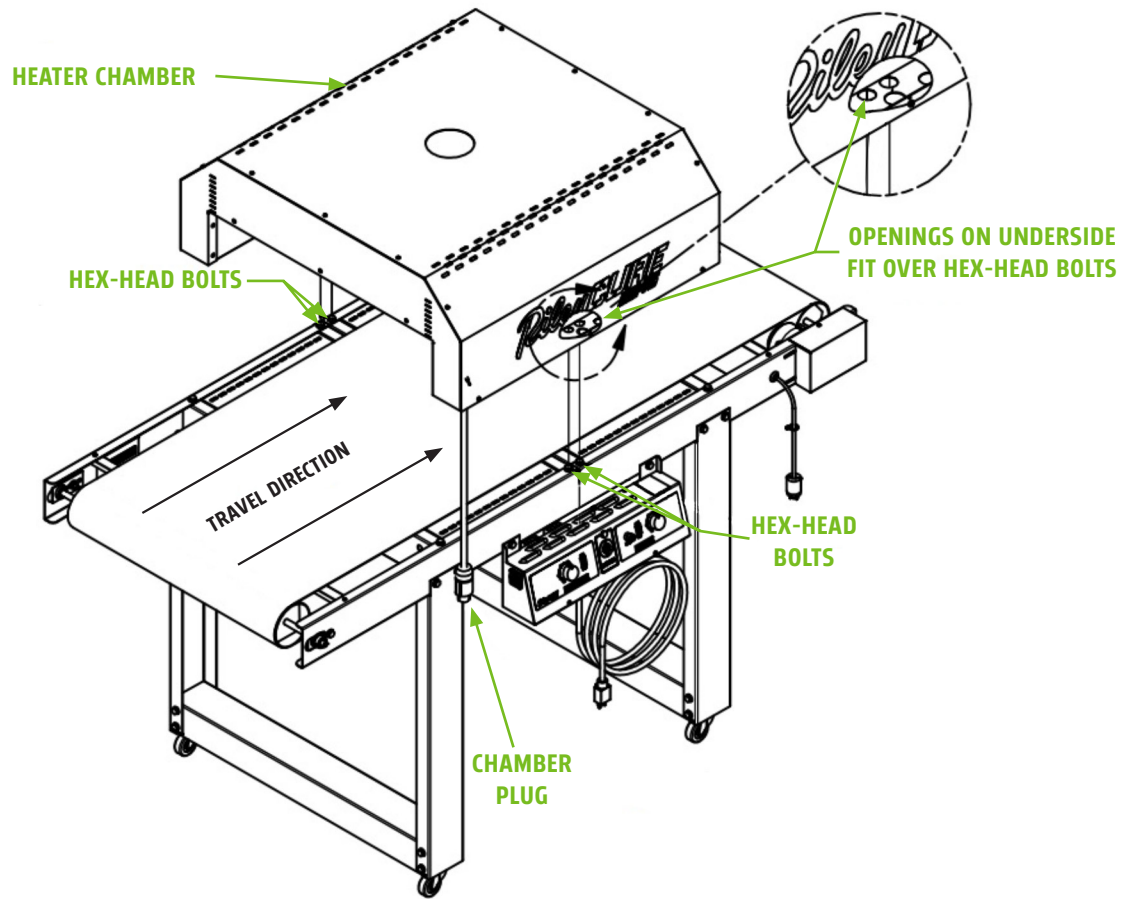

FIGURE 7
1. Using two people, set the chamber onto the conveyor bed (See **Figure 7**).
2. The Heating Chamber has openings on the underside rails that fit over the hex-head bolts (See Magnified View, **Figure 7**). The chamber should rest flatly on the conveyor bed.